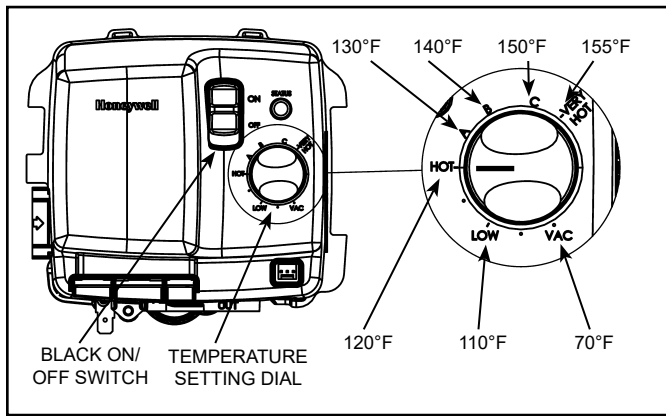
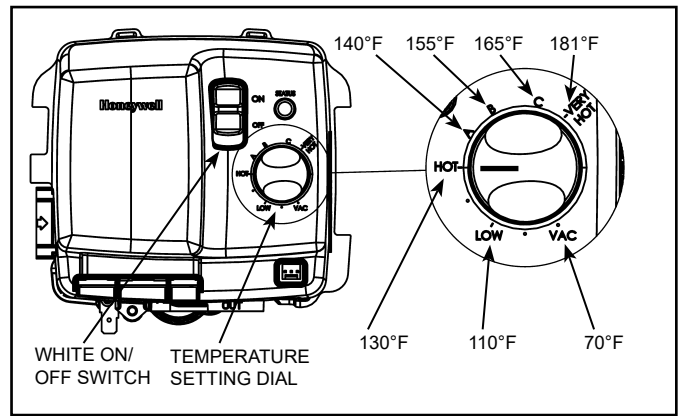

Figure 46.
Figure 47.
This water heater is equipped with an adjustable thermostat to control water temperature (see Figure 47 & Figure 46). Hot water temperatures required for automatic dishwasher and laundry use can cause scald burns resulting in serious personal injury and/or death. The temperature at which injury occurs varies with the person's age and time of the exposure. The slower response time of children, aged or disabled persons increases the hazards to them. Never allow small children to use a hot-water tap, or to draw their own bath water. Never leave a child or disabled person unattended in a bathtub or shower.
The thermostat settings on the gas control valve are shown in Figure 47 & Figure 46.
1. Turn the thermostat on the gas control to the lowest setting. If the heater is running, wait for it to shut down (see Figure 47).